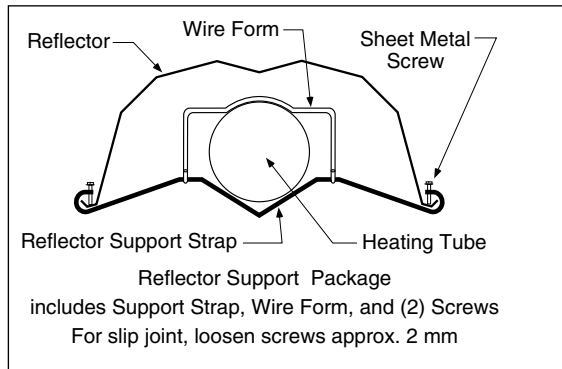

Figure 9. Reflector Support Package
- 5.4.2 Establish both the centre point for the unit, and the centre line of the heater run within the area to be heated. Along the established centre line of the heating run, layout two of the appropriate heater configurations (Figure 9, 10 or 11). The burner assemblies should be at opposite ends of the heater run and should be configured as shown in Figure 13.
NOTE: For general arrangement of components (tube and reflector hangers, reflectors, etc.) refer to Figures 9, 10 or 11, as required.